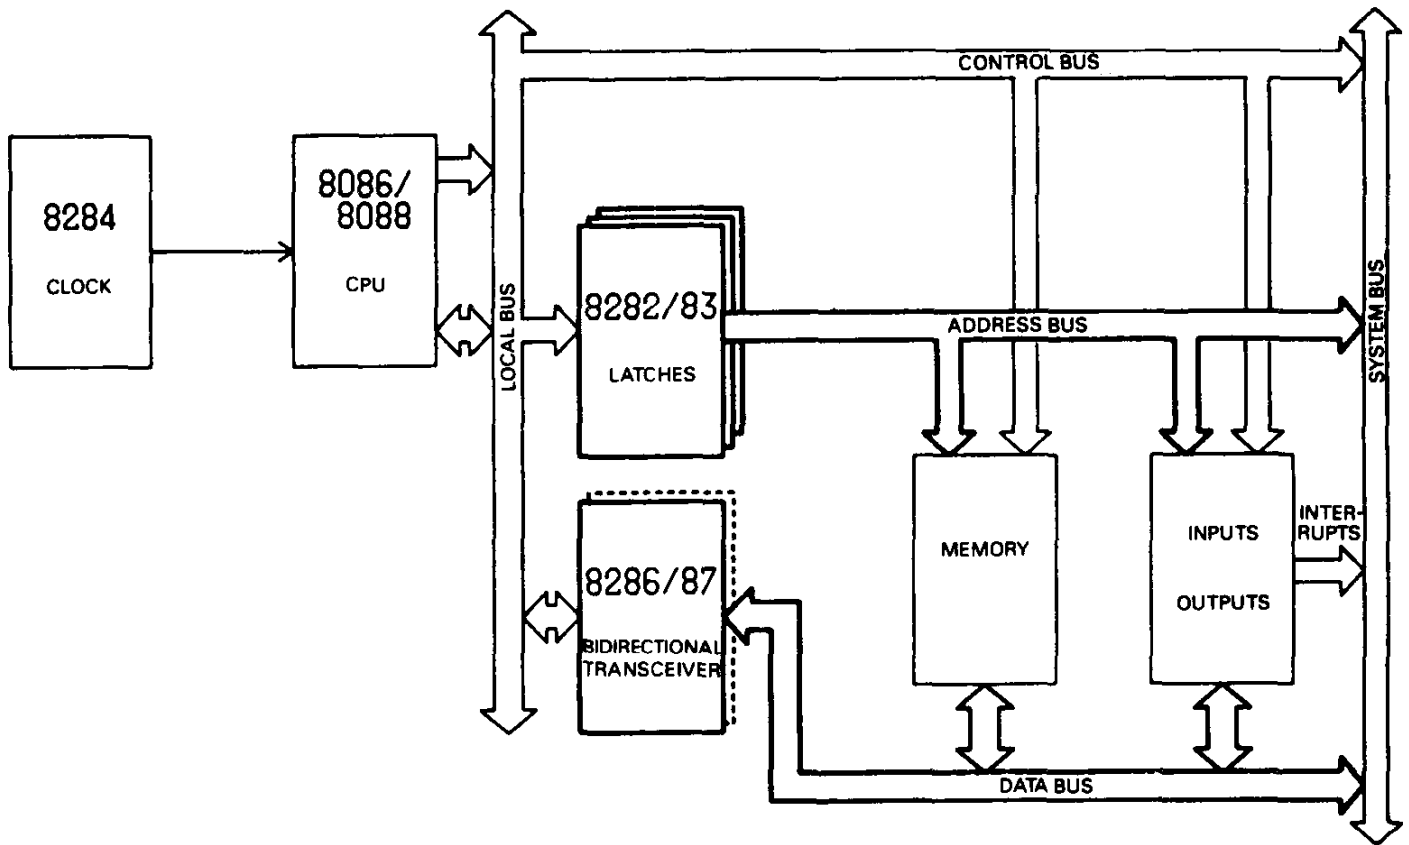

Figure 1.3
(3) The data bus, consisting of 8 or 16 lines. This bus is multiplexed with the address bus. The schematic system shown in figure 1.1 would require the memory and I/O devices to demultiplex the address and data if it were to operate. A system where the address and data are demultiplexed is shown in figure 1.3. In this circuit 8282/8283 latches are used to retain the active address, and one or two 8286/8287 bidirection bus transceivers are used to control the data bus - two transceivers being required for the 16-bit data bus of the 8086.